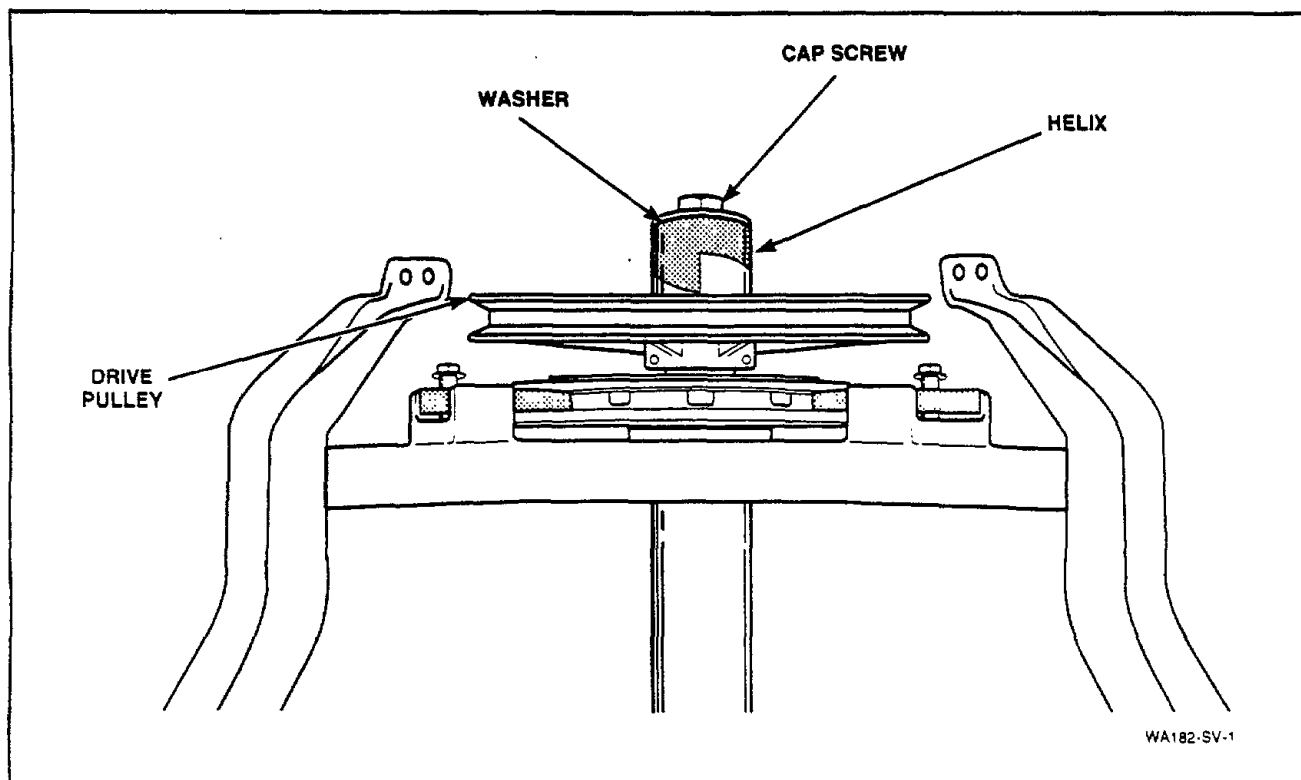

Figure 60
- m. Remove screw, washer and helix holding drive pulley to input shaft of transmission assembly, *Figure 60*.
- Remove screw, washer and helix holding drive pulley to input shaft of transmission assembly, *Figure 60*.